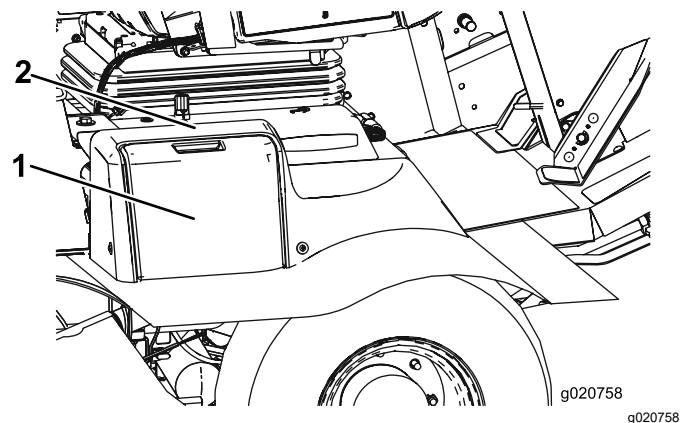

Figure 97
1. Open the battery cover on the side of the shroud (Figure 97).
Note: Press down on the flat surface above the battery cover to ease the removal of the cover (Figure 97).